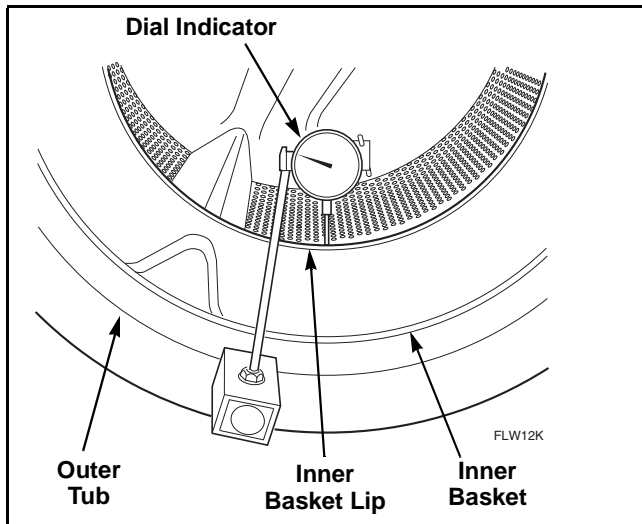

Figure 49
- Check for concentricity/roundness of assembly. Use a dial indicator to check that concentricity at the inside edge of inner basket lip is a maximum of .05 inch TIR (Total Indicator Runout). Refer to *Figure 49*. If concentricity is